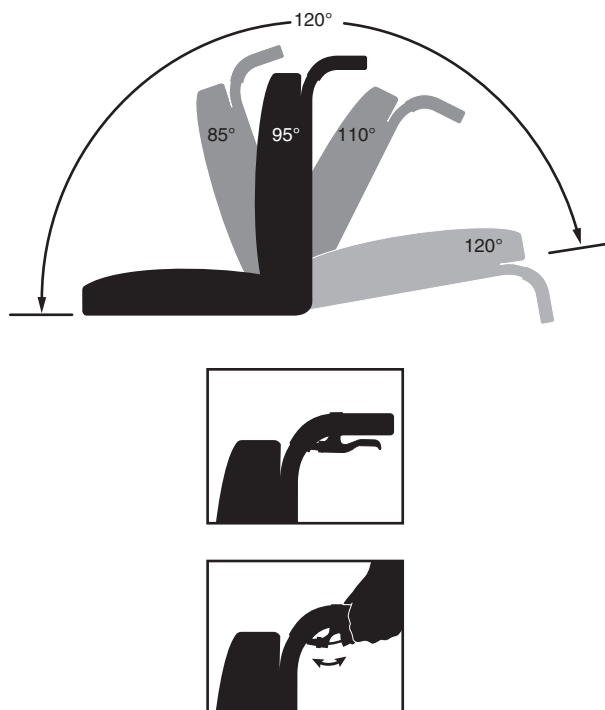

Figure 13. Manual Recline—Minimum and Maximum Recline Angles
If your TB-Flex Seat is equipped with the Manual Recline Option, you can adjust the seatback to angles ranging from the minimum recline position (85° from the seat base) to the maximum recline position (120° from the seat base). **See figure 13.** When the seat is reclined past 110°, the chair will be in full inhibit. Returning the seat to an angle of less than 110° will restore power to the motors.
2. Squeeze the recline release handle, and position the seatback to the desired angle. **See figure 13.**